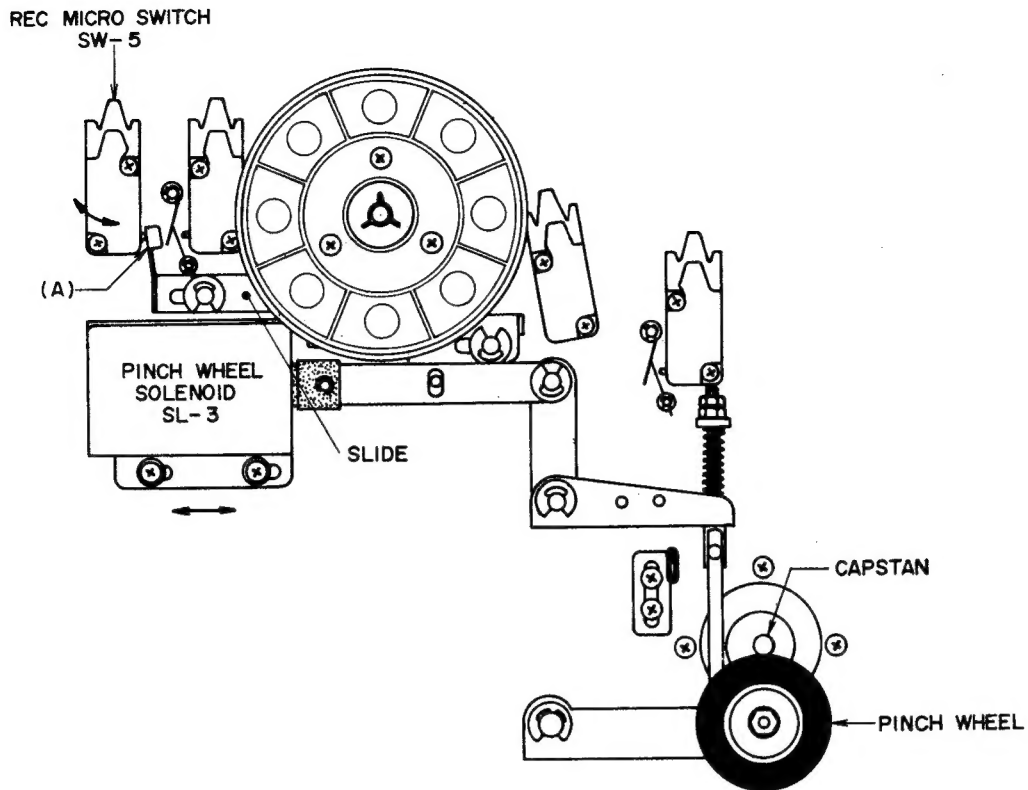

Fig. 1
1. POSITION ADJUSTMENT OF PINCH WHEEL SOLENOID SL-3 (Refer to Fig. 1)